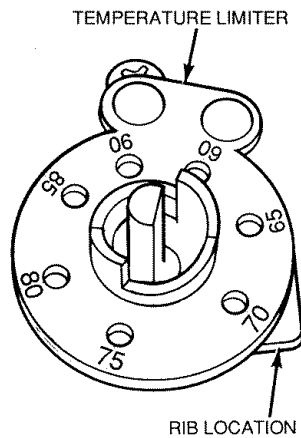

FIGURE 16 — ECONO ZONE II TEMPERATURE LIMITER
1. Remove thermostat control knob and the control panel. To detach the control panel, remove two screws at base of panel and gently pull off panel. Once removed, the temperature limiter is exposed. (See Figure 16.)